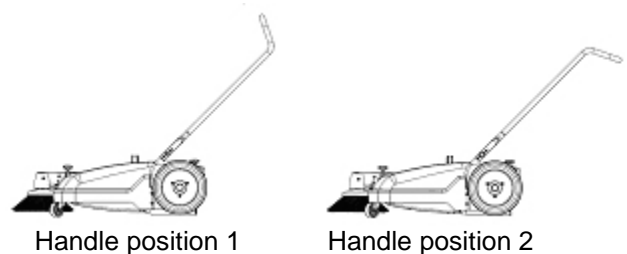

Fig. 2
- The handle can be fixed in two different positions as shown below. We recommend handle position 1 for ease of use and improved pick-up (Fig. 2).